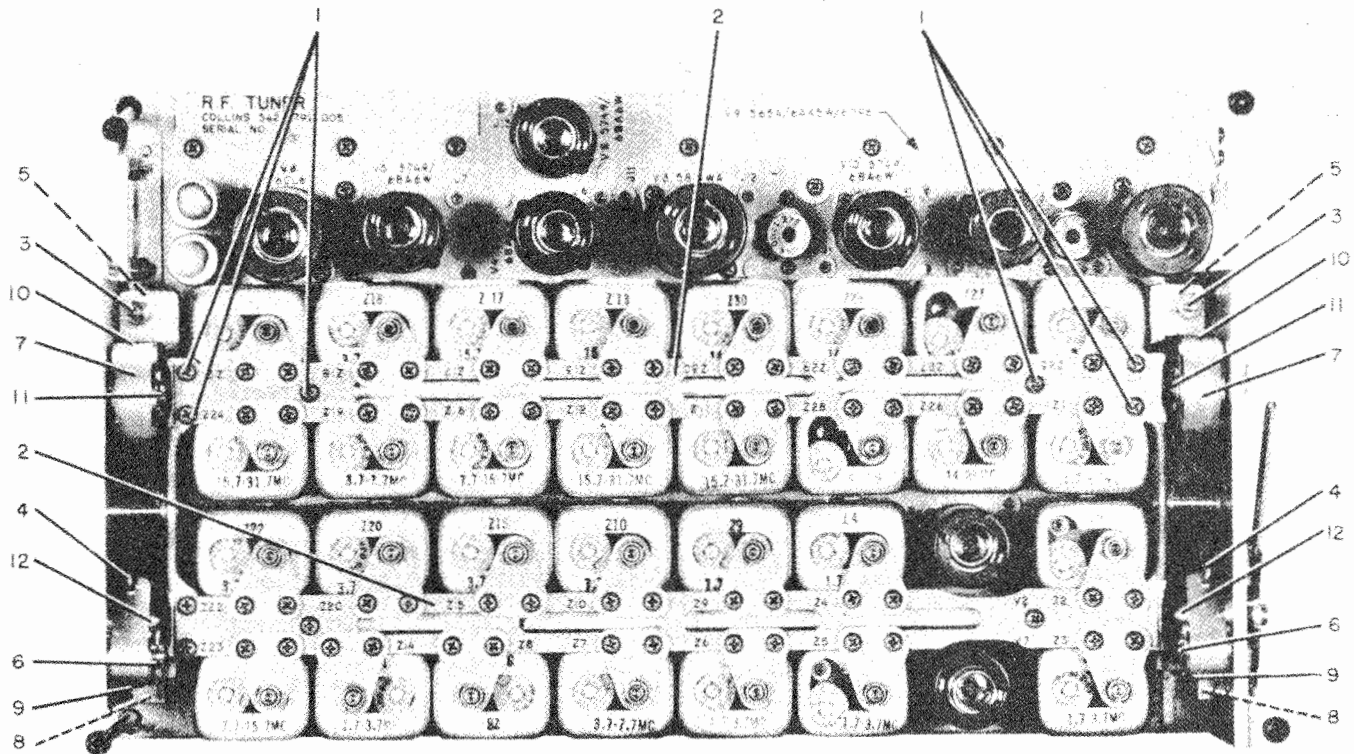

Figure 6-6. R-F Tuner, Top View
(72) Pull detent arm (13) out to clear detent cam and let detent arm (13) slide in notch of detent cam after detent cam is mounted into place.
(73) Secure shaft of assembly (10) to plate (21) with retaining ring (9).
(74) Turn assembly (10) counterclockwise until the number 1-0 turns to 12 o'clock. The switch (8) should then be oriented with contact number one place next to the notch in the plate (21). The rotator should also be set at position one.
(75) Place phenolic washers (5) over bolts (4) and slide bolts (4) through mounting holes in switch (8). Place phenolic washers (6) over end of bolts (4). Place spacers (7) over end of bolts (4).
(76) Slide switch (8) over shaft of assembly (10) and secure switch (8) to plate (21) with bolt (4), phenolic washers (5)(6), and spacer (7), using care not to damage the wiring to the switch. Do not tighten too much, since excessive pressure may damage the phenolic washers or switch.
(77) Secure retaining ring (3) to end of shaft.
(78) Place clamp (95) around cable and secure to panel (138) with bolt (96), washer (94), lock washer (93), and nut (92).
(79) Place clamp (105) around cable and secure to panel (138) with bolt (106), washer (104), lock washer (103), and nut (102).
(80) Mount the switch assembly to the panel (138) using the four bolts (1) and four lock washers (2).
(81) Mount front panel using the eight flathead bolts, and mount the BAND CHANGE knob and FREQUENCY CHANGE knob.
d. R-F TUNER SLUG RACK AND TAPE ASSEMBLY. - To replace the long or short tapes and slug rack, refer to figure 6-6 and proceed as follows.